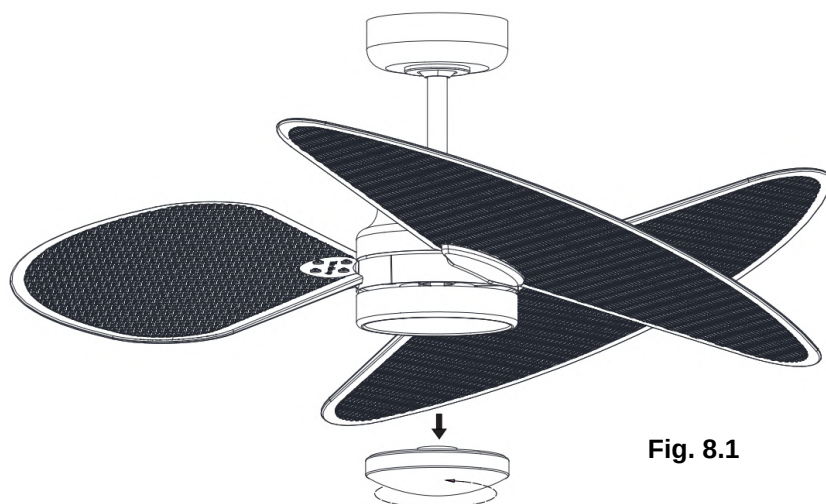

Fig. 8.1
- Remove the lamp from the GX53 lamp holder. (Fig. 8.1)